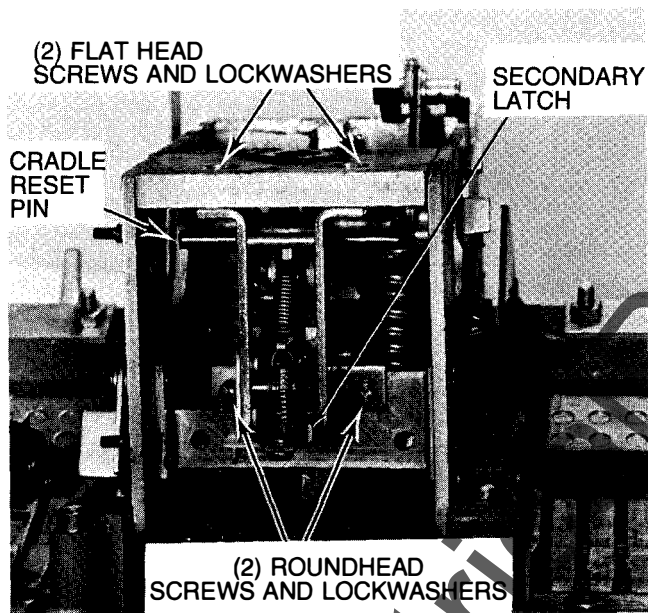

Figure 14
1. Remove the upper (2) mounting screws (flat head) and the lower (2) mounting screws (round head) and remove the latch assembly. See Figure 14.
2. If the breaker is a solid state version remove the flux shifter mounting screws, cut the wire tie, lift out and lay aside the flux shifter and remove the old latch. See Figures 14 and 17.